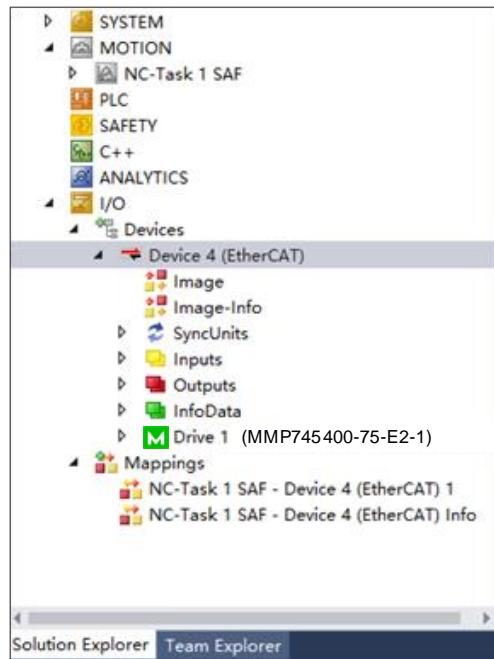

Figure 33: Device List
- c. Click "Yes" if TwinCAT asks if you want to scan boxes. After being successfully scanned, the devices should be listed (see Figure 33 on page 95).